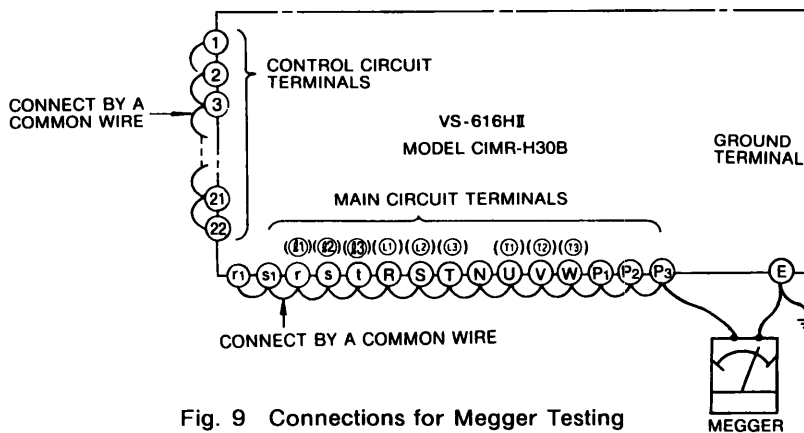

Fig. 9 Connections for Megger Testing
Connect the AC input, output terminals Ⓘ (Ⓘ1), Ⓢ (Ⓘ2), Ⓔ (ⒾL1), Ⓢ (ⒾL2), Ⓣ (ⒾL3), Ⓝ, Ⓟ1, Ⓟ2, Ⓟ3, Ⓡ (ⒾT1), Ⓡ (ⒾT2), and Ⓡ (ⒾT3) by a common wire, and connect the control terminals ①-②② (④, ⑪ and ⑱ excluded) by a common wire, as shown in Fig. 9. After that, measure the insulation resistance between the common wire of input/output terminals and ground with a megger. Never measure the insulation resistance of circuit other than the main circuit (power line). For both the input and output terminals, a reading above 1MΩ is considered satisfactory.